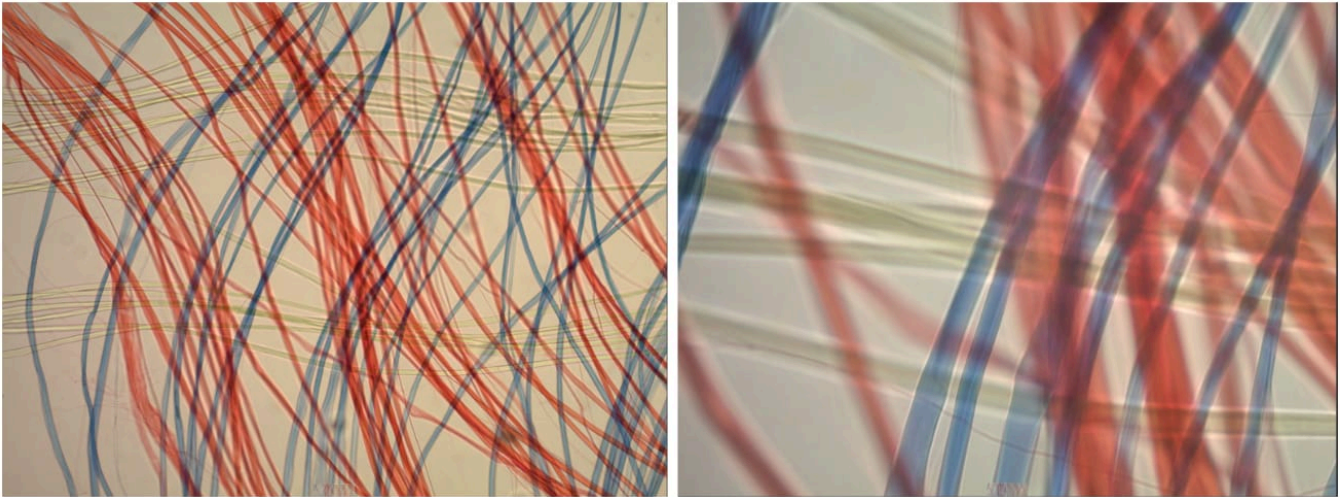

Figure 2.4: Microscope images of crossed silk fibers at 40x (left) and 400x (right) total magnification in a light microscope.
1. Following the same steps as you used for the letter “e”, visualize the crossed fibers using the 4x, 10x, and 40x objectives (Figure 2.4).